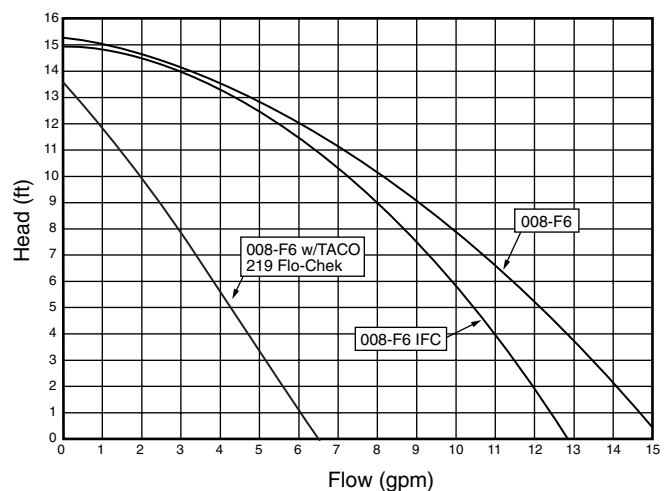

Figure 4
5. When selecting components for a system, it is worth noting the effect that their imparted resistance has on pump performance. It may be one thing to see the final **number** that is calculated as part of establishing the head loss of the piping system, but how does that number actually effect the flow rate in the system? This becomes very clear when comparing a system where a conventional weighted flow check is installed versus a pump with an integral flow check (00-IFC), as illustrated in Figure 4.